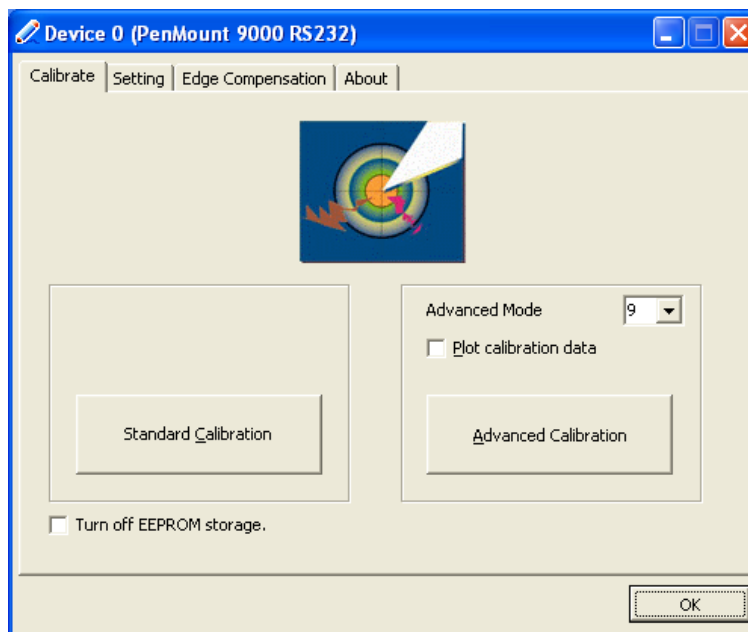

Figure 5-29: Calibration Initiation Screen
Step 7: The calibration initiation screen in **Figure 5-29** appears.
Step 8: Select the **Standard Calibration** button as shown in **Figure 5-29**.